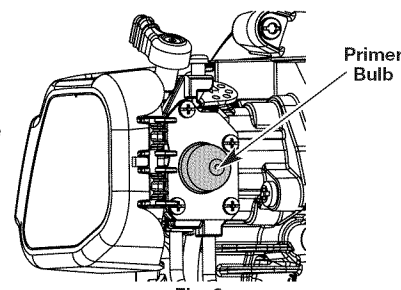

Fig. 6
3. Fully press and release the primer bulb 10 times, slowly. Some amount of fuel should be visible in the primer bulb and fuel lines (Fig. 6). If fuel can not be seen in the bulb, press and release the bulb as many times as it takes until fuel can be seen in it.